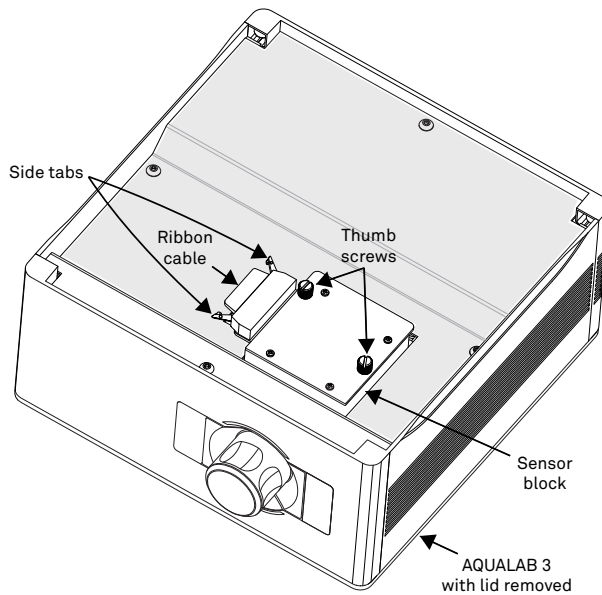

Figure 97 Sensor block in AQUALAB 3
8. Pull out on the side tabs to unplug the ribbon cable (Figure 97).